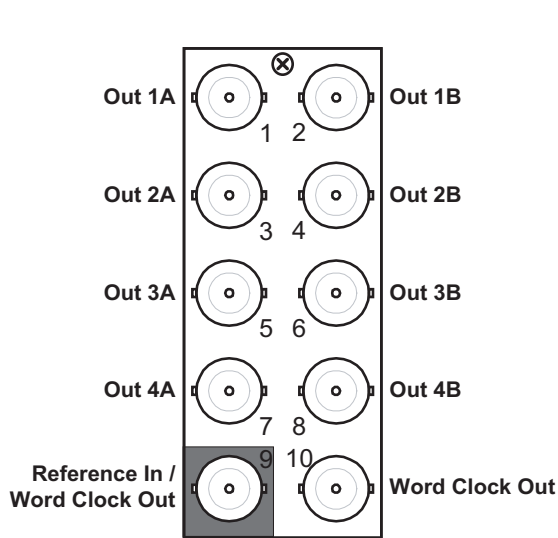

Figure 9 Cable Connections for the 8310AR-030 and 8320AR-030 Rear Modules
Each **8310AR-030** rear module occupies one slot and accommodates one card. This rear module provides eight video outputs and a Word Clock output. Depending on your configuration, there can be a reference input or a second Word Clock output on BNC 9. (**Figure 9**)
- **8320AR-030** Full Rear Module — Each rear module occupies two slots and accommodates one card. This rear module provides eight video outputs and a Word Clock output. Depending on your configuration, there can be a reference input or a second Word Clock output on BNC 9. (**Figure 9**)